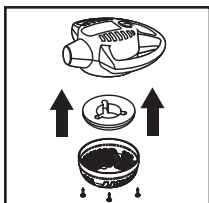

FIGURE 16
30. After cleaning, replace inlet shield and foam pad and secure with screws. **NOTE:** Inlet shield will only fit properly one way **FIGURE 16.**